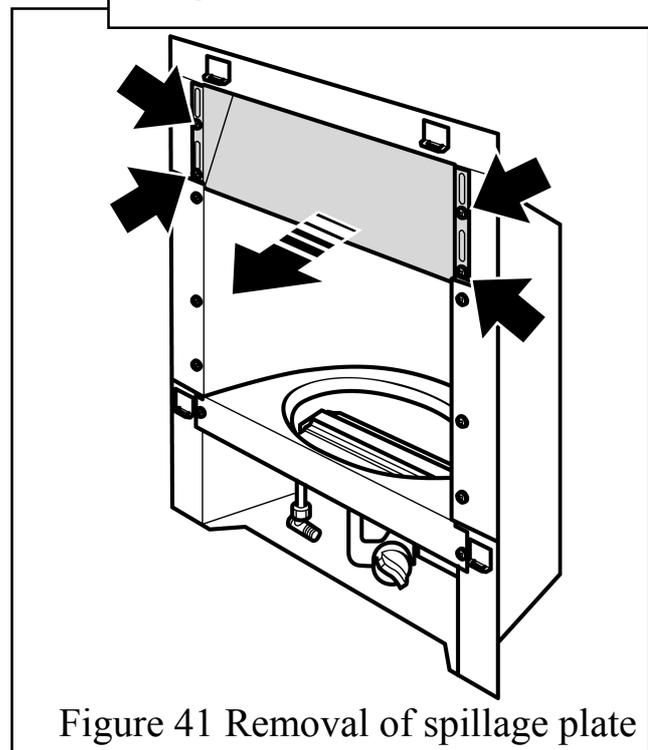

Figure 41 Removal of spillage plate
3. Detach the spillage plate from the hotbox by removing the four screws (See figure 41). Place the spillage plate in a safe place away from the work area.